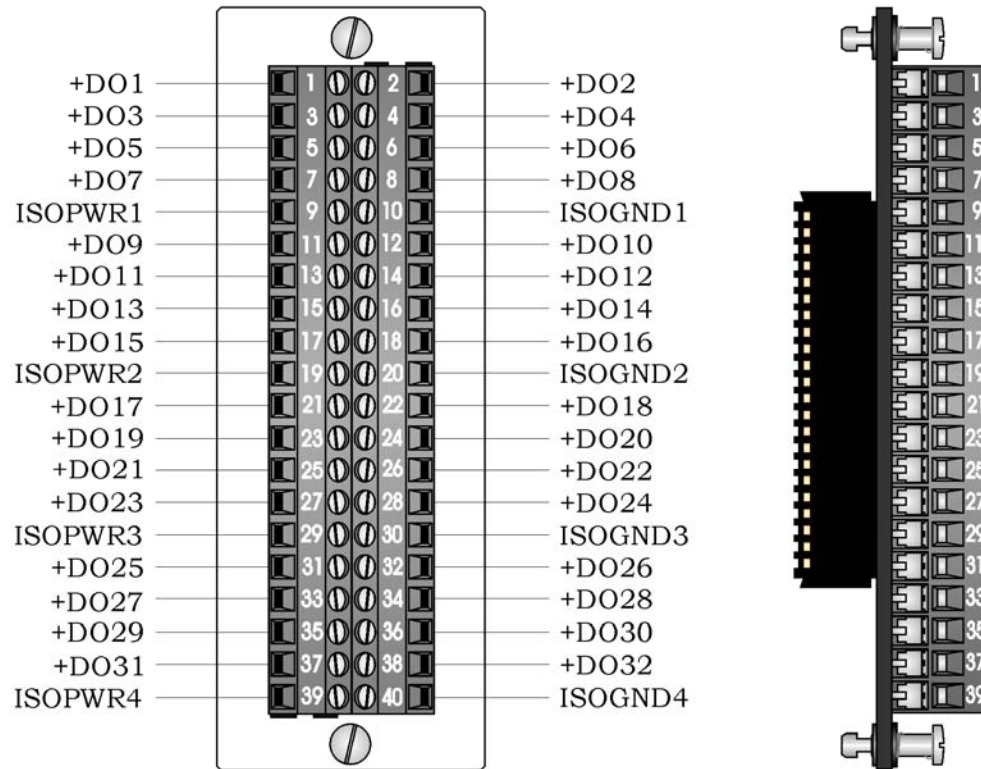
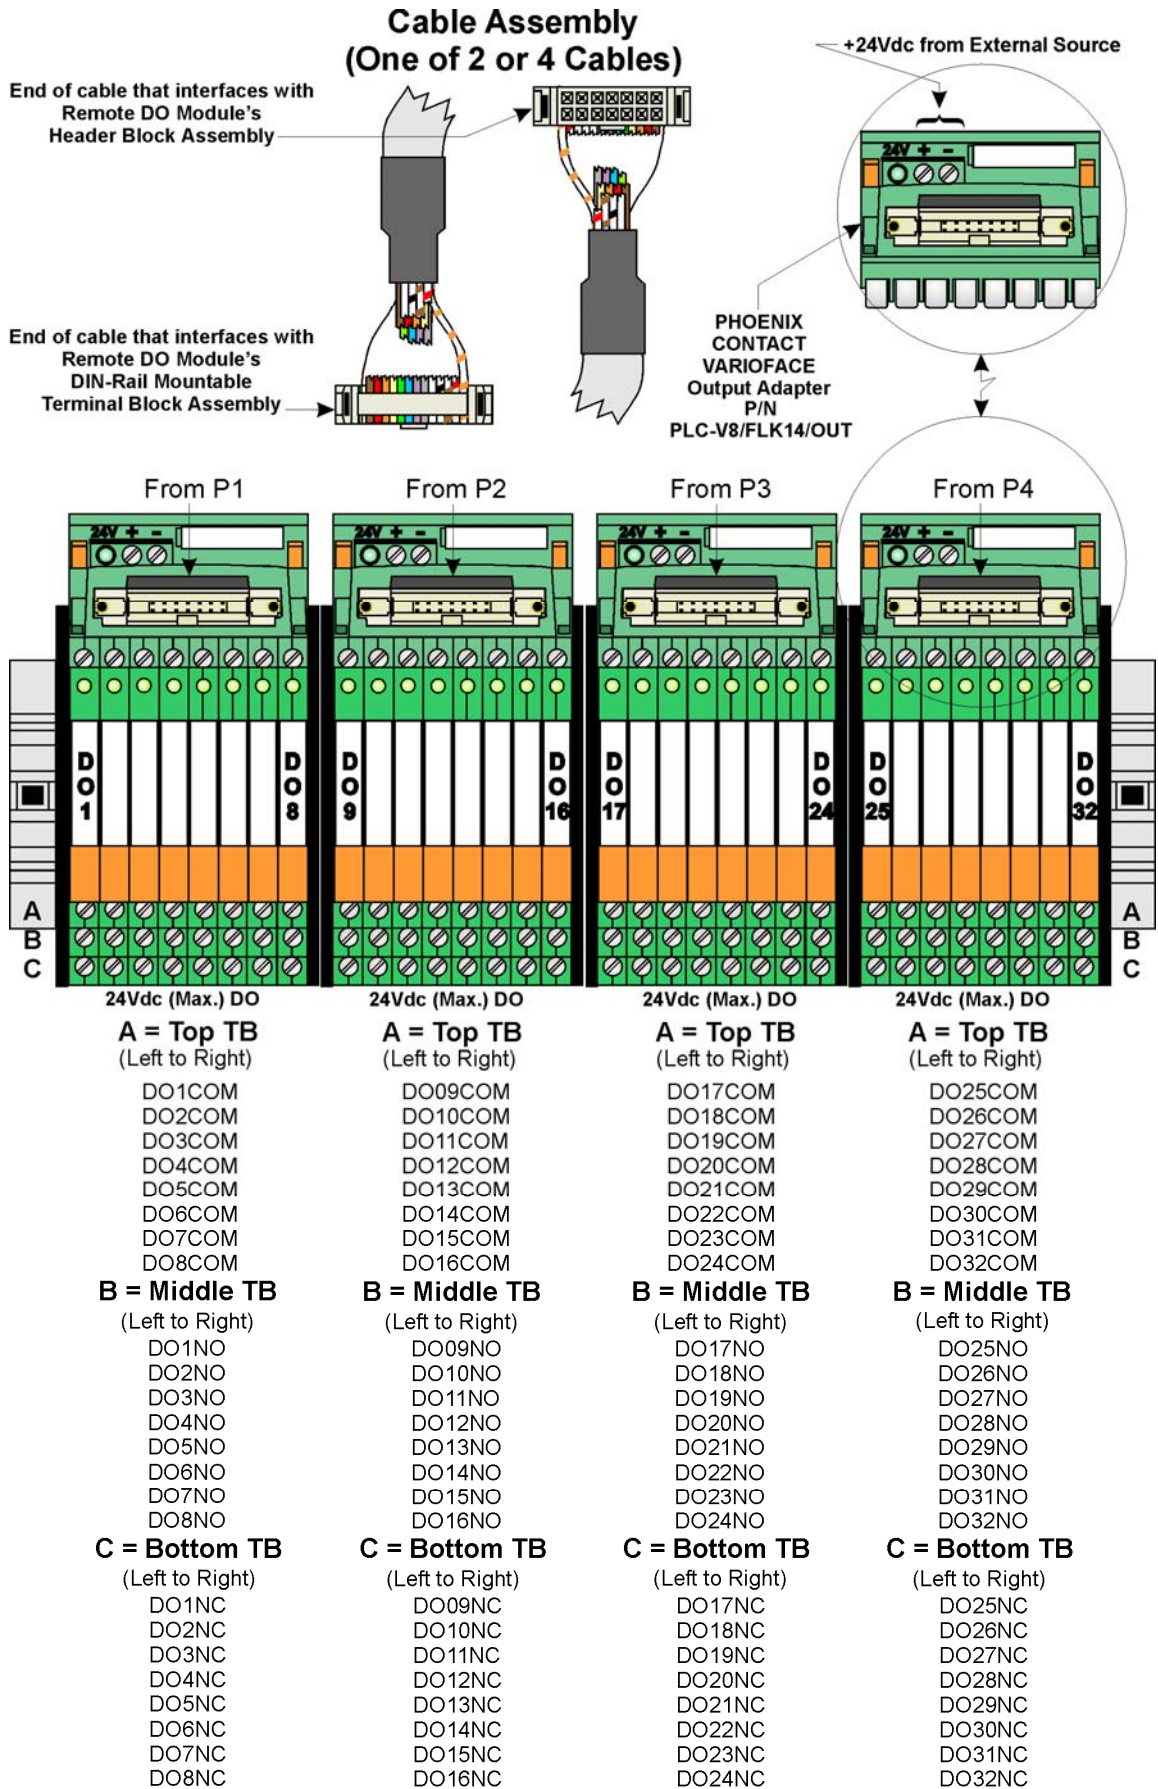

Figure 2-15 - Local Terminal Block Assembly Assignments for Open Source Isolated DO Operation
Figure 2-18 - Remote DIN-Rail Mountable Terminal Block Assembly Assignments for Relay Isolated 24Vdc DO Operation
2.3.2.5 Digital Outputs (see Figures 2-15, 2-16, 2-17 & 2-18)
Field wiring assignments associated with the locally terminated DORS Modules and remotely terminated DORS Modules are provided in Figures 2-15 and 2-17 respectively. A special remote termination module with built-in discrete relay modules is also available (see Figure 2-18).